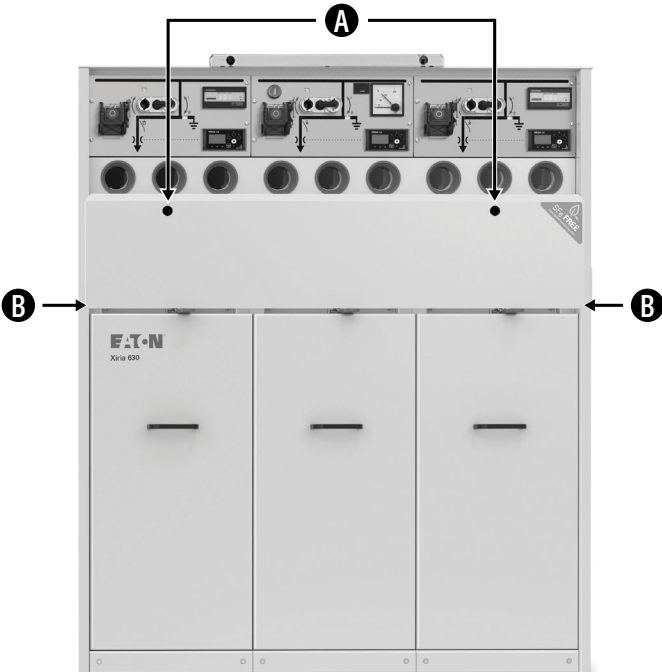

Figure 3-14: Hinged and deepened secondary front compartment
- 1. Unscrew the two thumb screws (A) at the front. See figure 3-14.